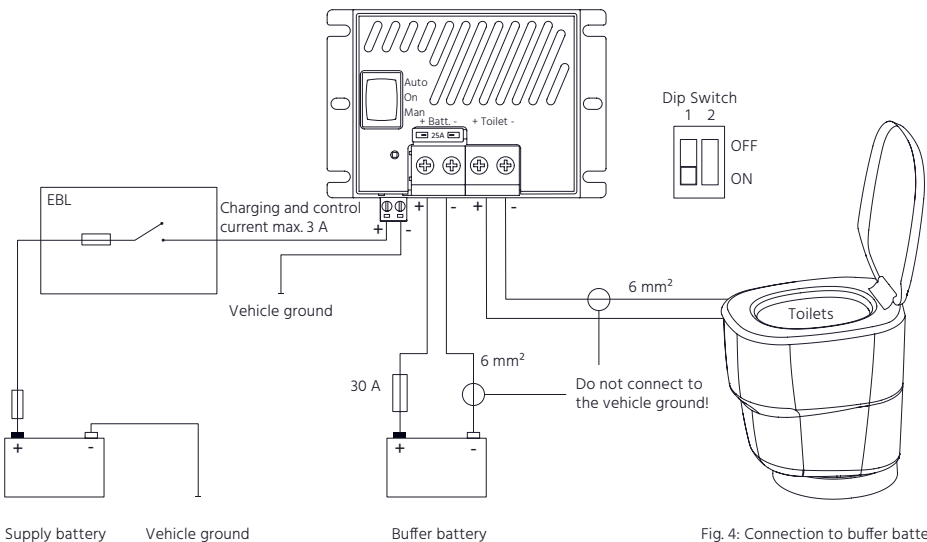

Fig. 4: Connection to buffer battery
- 1. Battery:** The battery is connected using the original cable set from Clesana. The cable set is fused with 30 A just behind the battery pole; do not insert the fuse yet, it is inserted for the initial start-up. Caution, the ground side of the battery must not be connected with the vehicle ground (body), the ground wire goes directly from the battery into the Clesana Power Management, see Fig. 4.